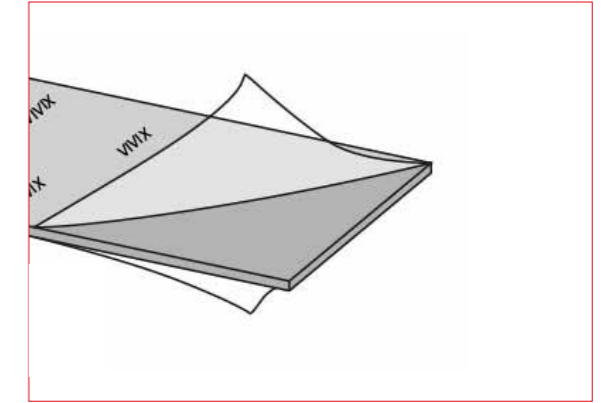

fig.5 – Remove protective film both sides
- The removable protective film should be removed from both sides before installation (see fig. 5)